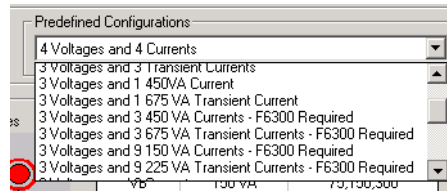

Figure C.1 Pre-set Configurations
- Select *User Defined* from the *Configurations* field (Figure C.1).